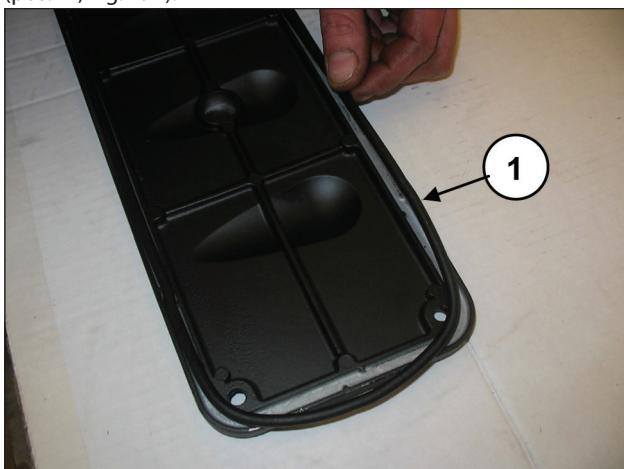
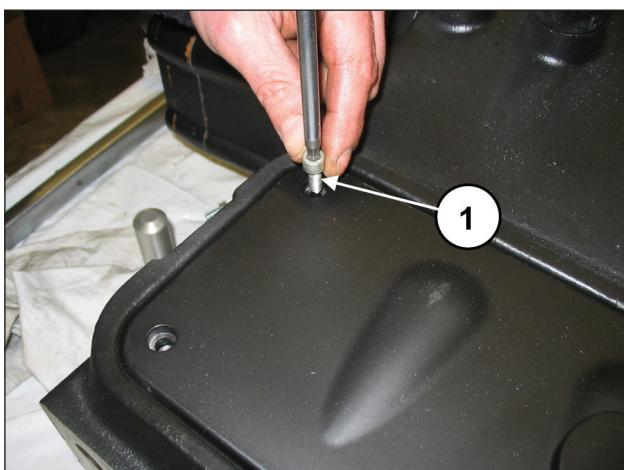

Fig. 190
Fig. 191
On the inspection covers insert the O-ring (pos. ①, Fig. 190) and assemble the covers with the use of 4+4 M6x14 screws (pos. ①, Fig. 191).